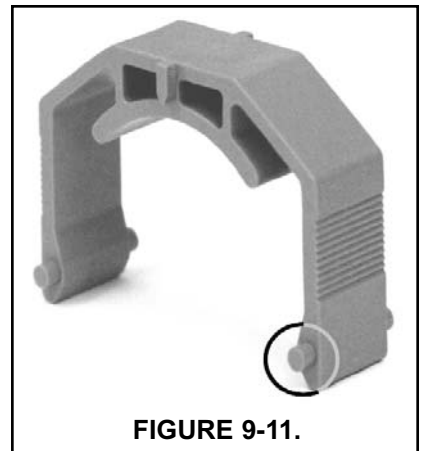

**FIGURE 9-9.**
6. Insert the new tubing one end at a time. Tongues on the sides of the gray fittings at the ends of the tube fit into receiving grooves in the pump casing. See Figure 9-9. Push the fitting into place until it clicks. Gently stretch the tubing over the rollers and insert the other fitting into the receiving socket on the other side of the pump.